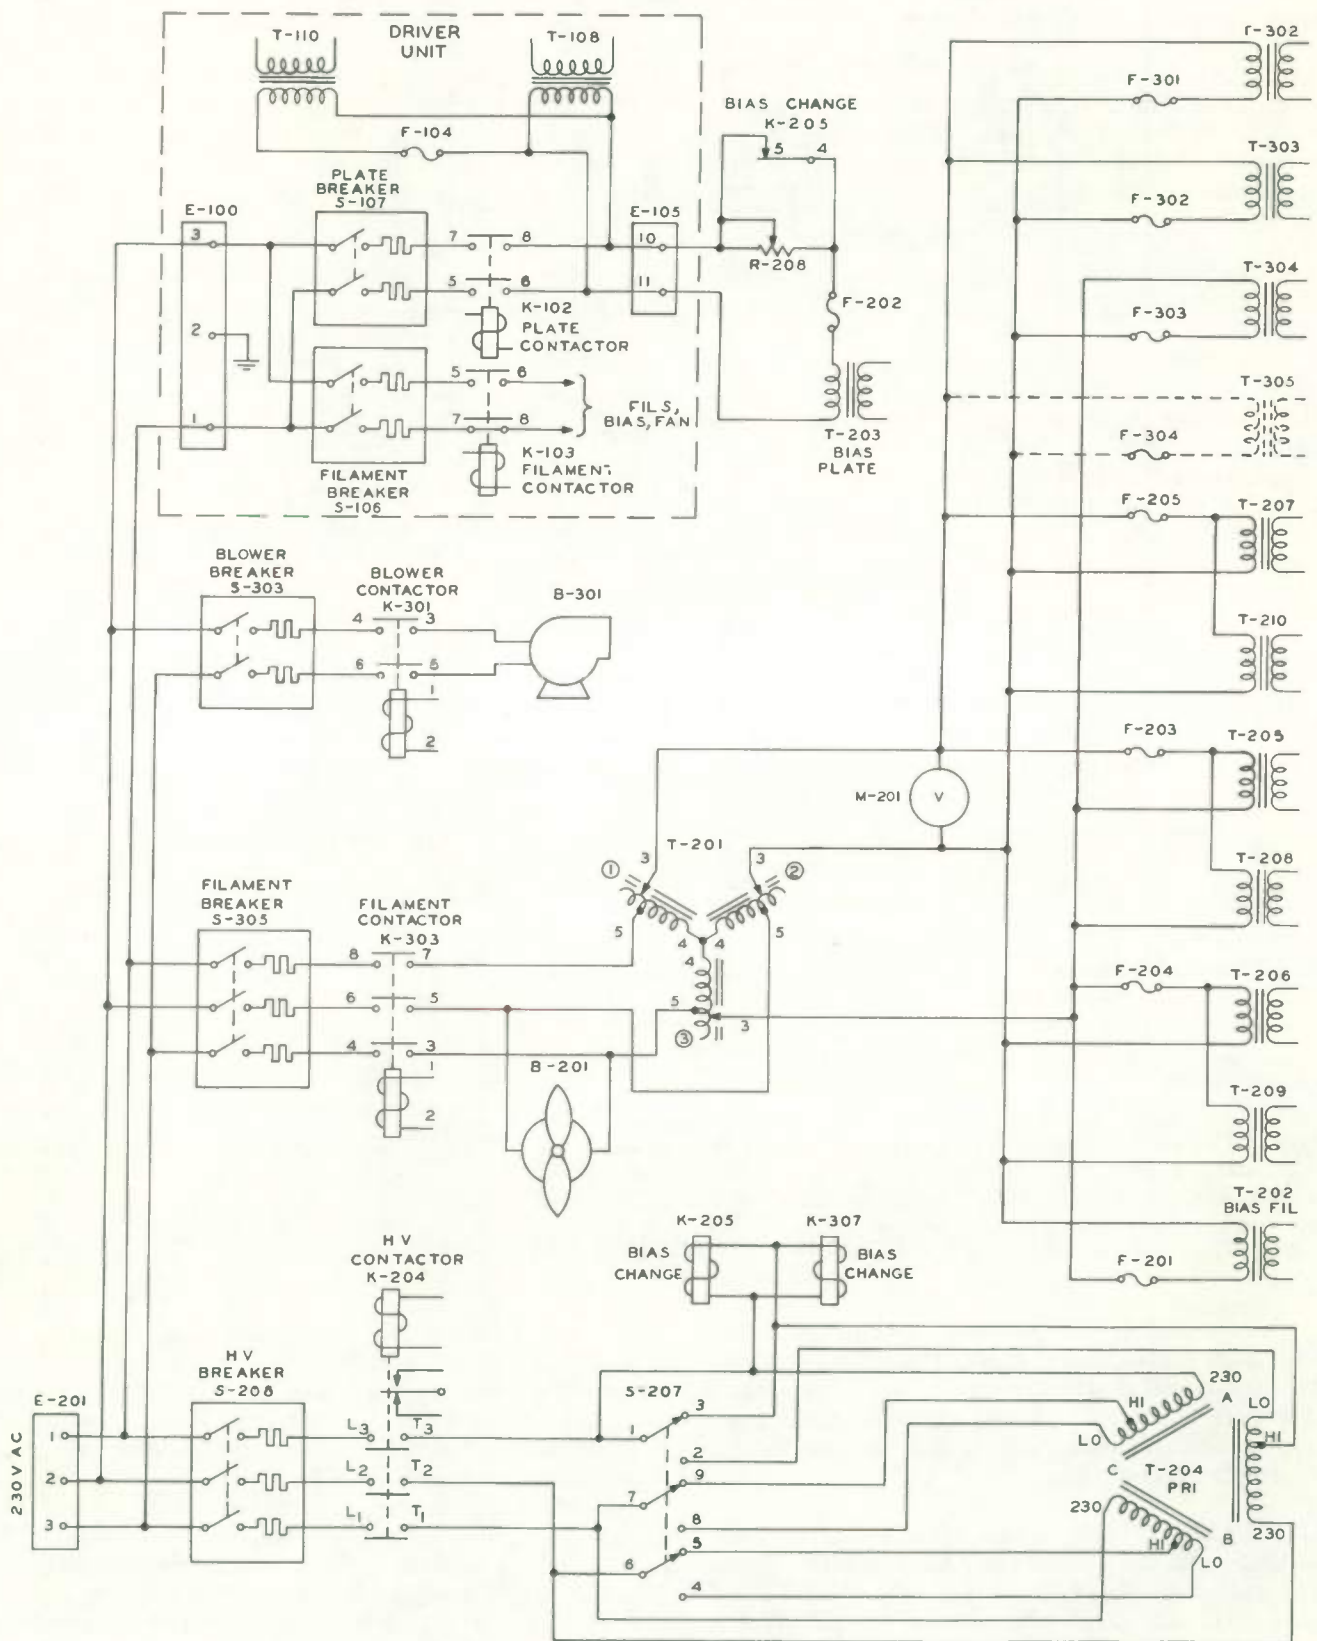

Figure 4-1. Primary Power Circuits
plate transformer, T203, which is excited upon application of plate power to the driver cabinet; a pair of 866A rectifiers; and a suitable chock input filter. Variable resistor R208 in the primary lead of T203 is shorted out by contacts of bias change relay K205, when the transmitter is operating high power. K307 inserts additional bleeder resistor R339 to reduce modulator bias on low power. R335 and R336 are individual bias controls for modulator tubes in both high and low power positions. (See figure 4-1.) The value of bias for the r-f power amplifier tubes is predetermined by voltage dividers R338 and R339. The output voltage of this supply is minus approximately 1200 volts.
4.3.1.1 FILAMENT. (See figure 4-1.) T201, FILAMENT ADJUST, is a 3-phase, 230-volt, adjustable autotransformer used to adjust the primary voltage to all the filament transformers in the power and final bay.
4.3.1.2 PLATE. (See figure 4-1.) The 3-phase, 230-volt current to excite plate transformer T204 flows first through HV BREAKER switch S208, then through high voltage contactor K204 and through HV-LV switch S207. S207 is connected to select primary taps for power-change. Paragraph 4.4.3 explains the circuit to get high voltage contactor K204 energized.
If the transmitter fails to start, circuits should be checked in the order in which they are made operative. The primary control circuit diagram, figure 4-1, should be of assistance in locating trouble in the primary circuits. Table 3-1, typical meter readings, and table 5-1, typical voltages and currents, are supplied as a reference of typical voltages and currents in the average 21E/M. A list of typical readings of all panel meters of the individual transmitter should be made as an aid to rapid trouble shooting.